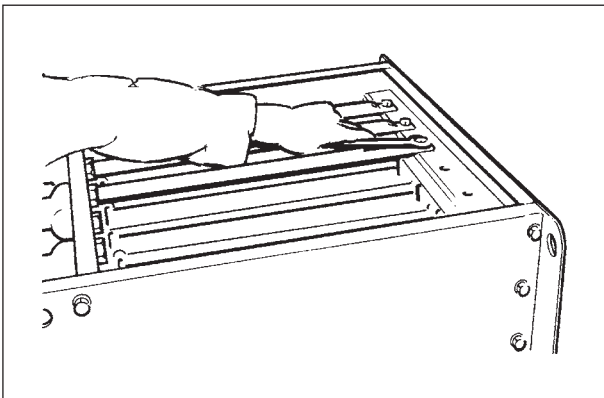

Figure 9 Replacing the jet tubes
- 11 Replace jet tubes (fig. 9). As each is bolted down, ensure that its open end is pressed firmly into its locator and that the jet tube orifices are pointing towards the inserts.